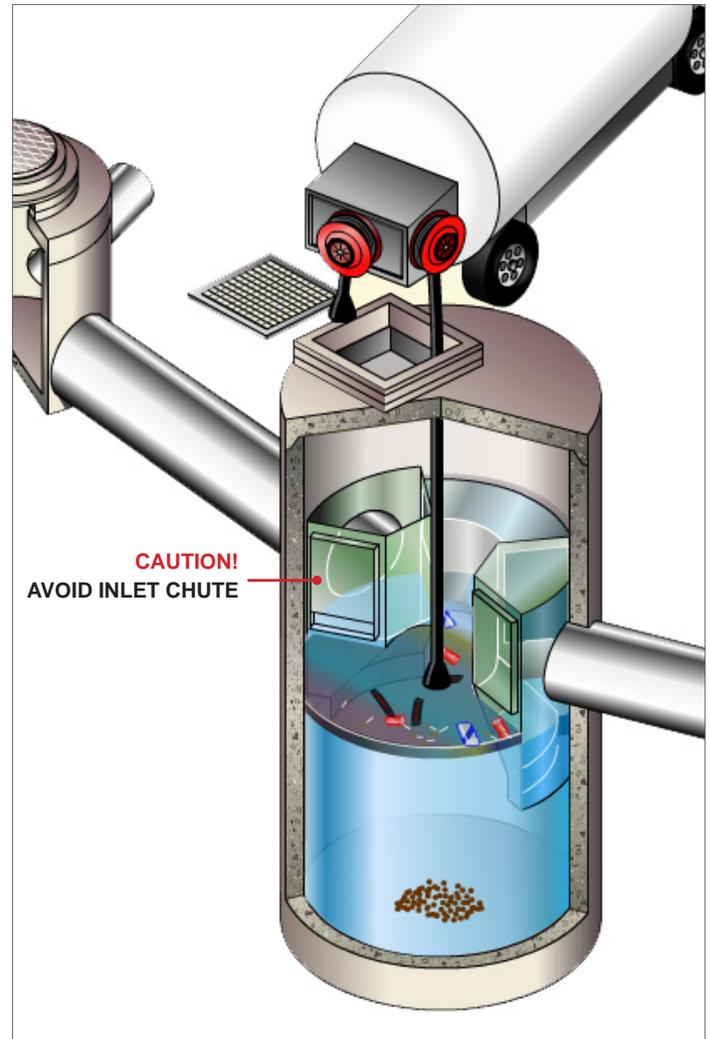

Figure 2: Floatables are removed with a vactor hose
3. Without entering the vessel, look down into the chamber to inspect the inside. Make note of any irregularities. Figure 2 shows the standing water level that should be observed.
Floatables cleanout is typically done in conjunction with sediment removal. A commercially or municipally owned sump-vac is used to remove captured sediment and floatables (Figure 2).
4. Remove oil and floatables stored on the surface of the water with the vector hose (Figure 2) or with the skimmer or net (not pictured).